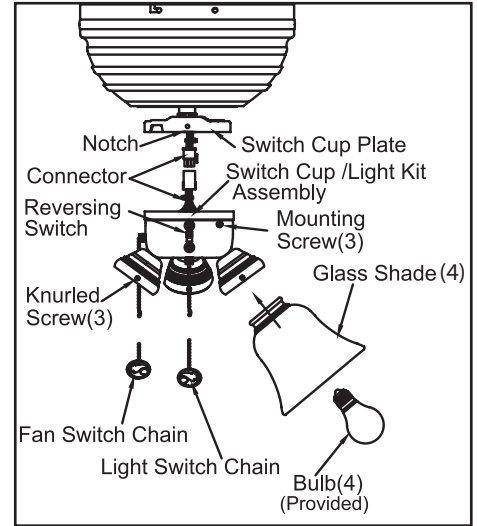

Figure 12
2. Engage the connector of the switch cup/light kit assembly with the motor connector (Figure 12). The two connectors are keyed and must be mated correctly before they can be engaged. Make sure the connector latch closes properly.
4. To install the glass shade, back the three knurled screws out until the glass shade neck slips into the glass holder (Figure 12)". Then finger tighten the screws until three screws touch the neck with approximate equal projection on the outside.